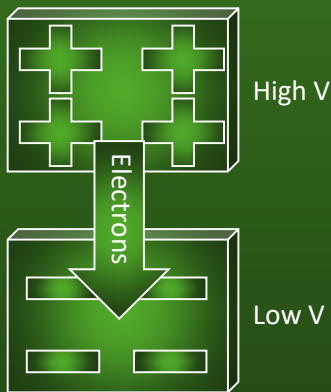

Figure A5.3. The movement of electrons is from high voltage to low voltage.
- We measure current as the movement of charge from the higher voltage to the lower voltage as shown in *Figure A5.3*. The flow of positive charge is called **conventional current**. The flow stops when the potential difference between the two points is zero. Voltage is a quantitative expression for the difference in electrical potential between two objects or points. The bigger the difference (in electrical potential) the more current could flow in the same circuit.